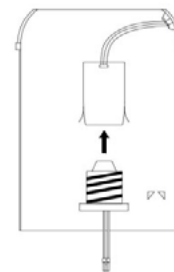

Fig. 5 (5"/6" Housing Installation)
7. Screw the socket adapter into existing socket in housing. (See Fig.5)